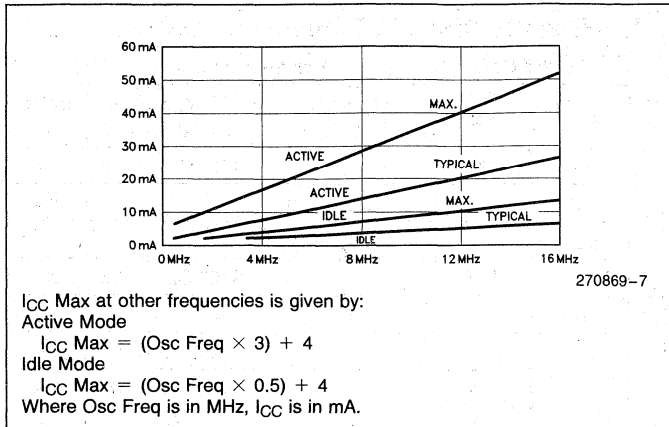

Figure 6. I_{CC} vs Frequency
5. See Figures 6–10 for test conditions. Minimum V_{CC} for Power Down is 2V.